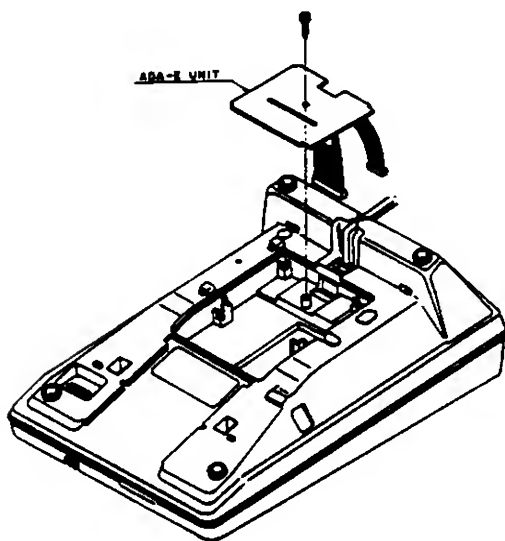

Figure 260-3 ADA-E Installation into an ETE-6-1 Multiline Terminal
E. Locate the eight pin jack labeled ADA, as seen through the access view of the Multiline Terminal housing, just below is a four pin connector and jack labeled HAND, refer to Figure 260-3.